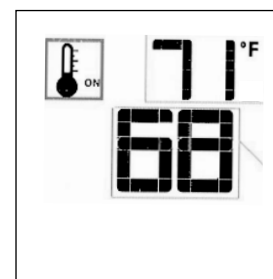

Fig. 8.20. Smart Set Temp.
- To adjust the temperature, press the Up or Down Arrow Keys until the desired Set Temperature is displayed. Fig. 8.20.